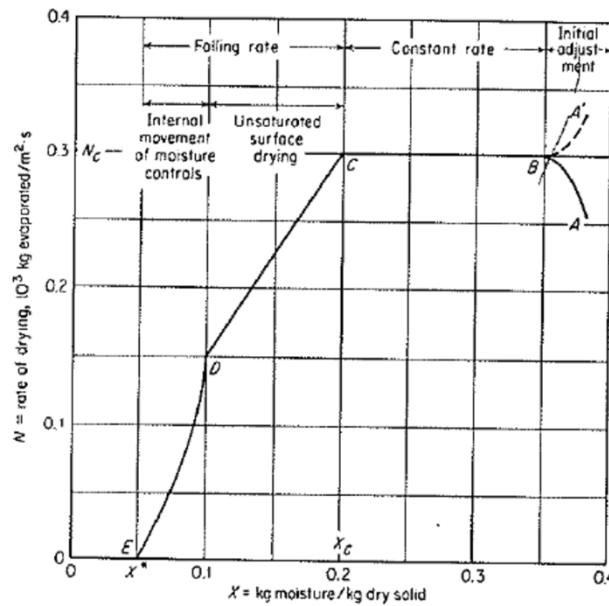

Figure 12.10 Typical rate-of-drying curve, constant drying conditions.
- b. *Special case.* N is linear in X , as in the region BC of Fig. 12.10. In this case,
Frequently the entire falling-rate curve can be taken as a straight line between points C and E (Fig. 12.10). It is often assumed to be so for lack of more detailed data. In this case
Illustration 12.3 A batch of the solid for which Fig. 12.10 is the drying curve is to be dried from 25 to 6% moisture under conditions identical to those for which the figure applies. The initial weight of the wet solid is 160 kg, and the drying surface is $1 \text{ m}^2/40 \text{ kg dry weight}$. Determine the time for drying.
SOLUTION The total weight of the batch is unimportant. $S_S/A = 40$. At 25% moisture, $X_1 = 0.25(1 - 0.25) = 0.333 \text{ kg moisture/kg dry solid}$. At 6% moisture, $X_2 = 0.06/(1 - 0.06) = 0.064 \text{ kg moisture/kg dry solid}$. Inspection of Fig. 12.10 shows that both constant- and falling-rate periods are involved. The limits of moisture content in the equations for the different periods will be chosen accordingly.
Falling-rate period This is from $X_c = 0.200$ to $X_2 = 0.064$. Use Eq. (12.3). The following table is prepared from data of Fig. 12.10:
As an approximation, the falling rate can be represented by a straight line from C to E (Fig. 12.10). The corresponding falling-rate time is, by Eq. (12.9),